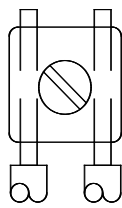

Figure 2
- Break all in-out wire runs on supervised circuits to ensure the integrity of circuit supervision as shown in Figure 2. The polarity shown in the wiring diagrams is for operation of the appliances.